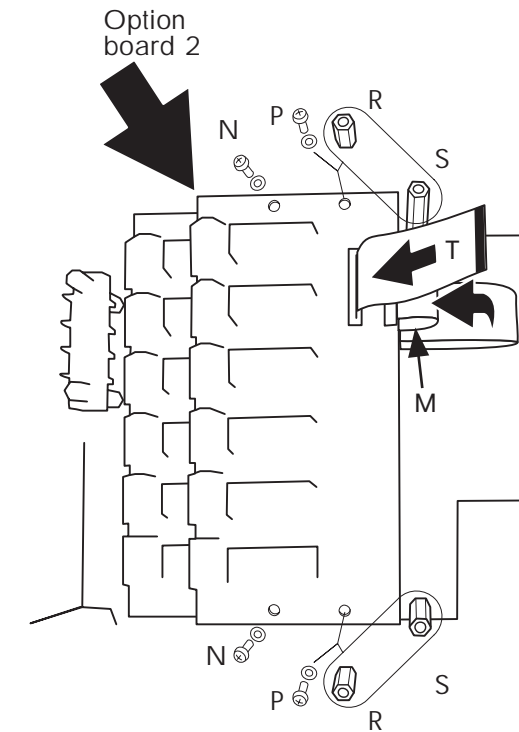

Figure 2.2.4 Fitting option board 2
2. Fit the option board, as shown in figure 2.2.4, and secure it with two M3 x 8 screws (N) and associated shakeproof washers.
3. If no further option boards are to be fitted, complete the fitting of option board 2 by using two further M3 x 8mm screws 'P' and shakeproof washers. If option board 3 is to be fitted use two 15 mm stand-off pillars (BE250365U150 - 'R' in figure 2.2.4) instead of screws 'P' and washers, and fit two 38 mm stand-off pillars (BE250365U380 - 'S' in the figure) to the options base plate, using a 4BA spanner or nut runner to tighten all pillars.
5. If option board 3 is to be fitted, fit a 75mm flexi cable (CM027818U075 - 'T' in figure 2.2.4) into the vertical connector on option board 2 (blue side of the flexi towards the front (terminal block) edge of the board).